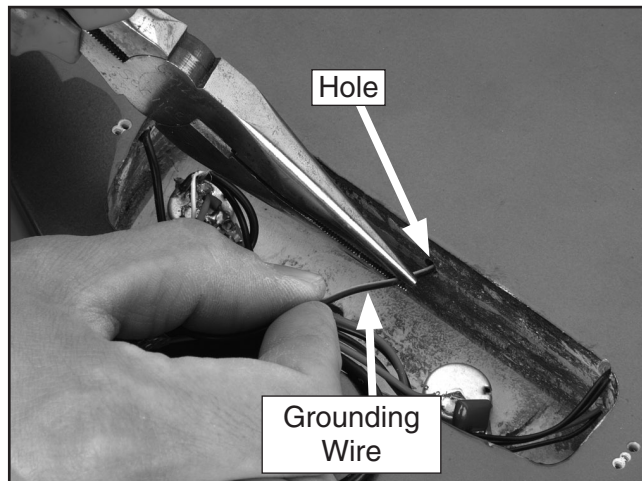

Figure 17. Installing ground wire into side hole.
4. Insert the grounding wire through the hole in the side of the circuit board mortise (**Figure 17**).